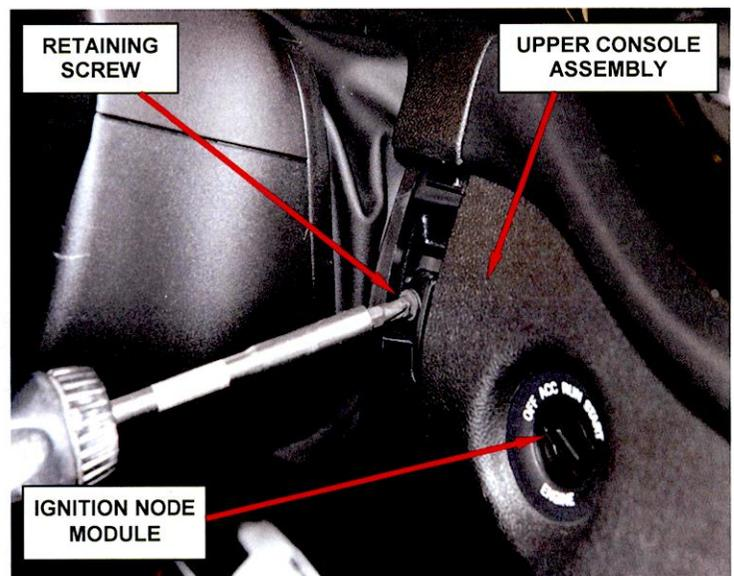

Figure 7 – Upper Console Assembly Retaining Screw
l. Remove and save the one upper console assembly retaining screw (Figure 7).
- i. Snap the upper console assembly into place and install the retaining screw (Figure 7 and 8).